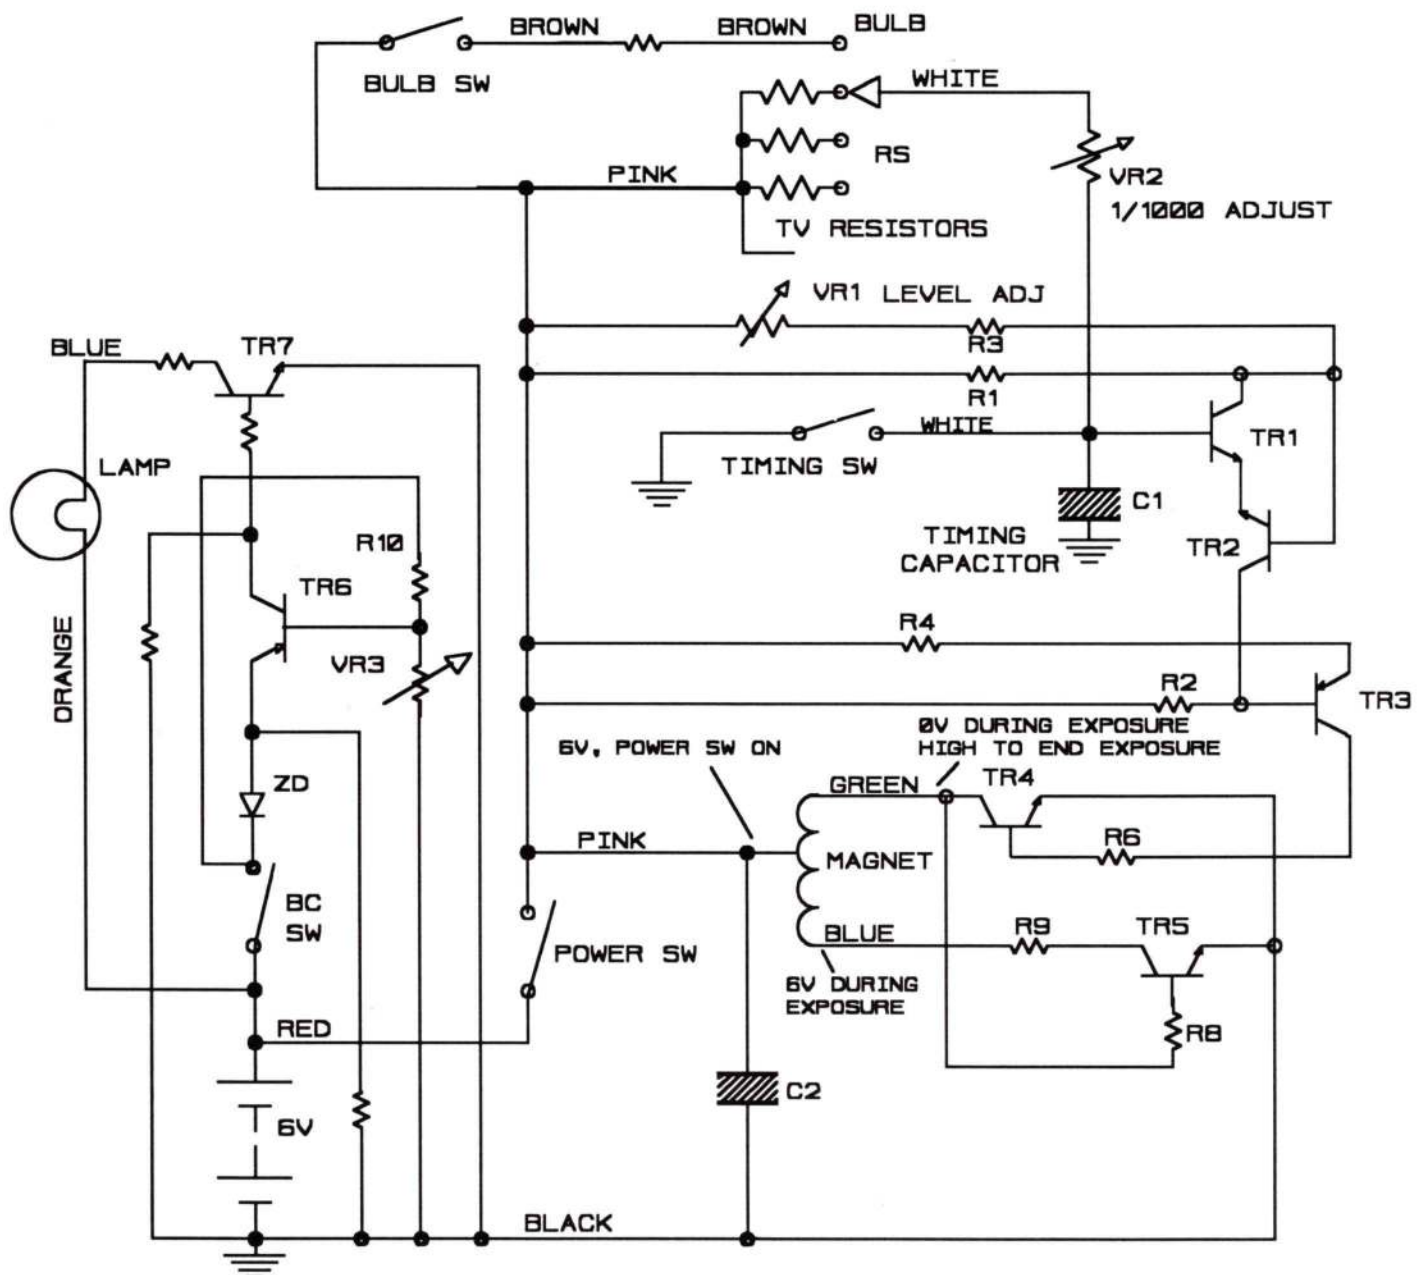

FIG. 31 SCHEMATIC
The new-style circuit board uses surface-mount transistors and resistors. The wiring is the same. But in the old-style board, the wires pass through holes in the underside of the board. In the new-style board, the wires connect to solder lands at the top of the board. The difference in the circuit is the connection of C2, Fig. 31—in the new-style board, C2 connects to the TR1 emitter.
**Note:** Most of the repairs in the 6x7 are mechanical—circuit repairs are normally limited to the switches. The circuit, Fig. 31, is a basic analog timing circuit. When the timing switch opens, the timing capacitor C1 charges through the TV (RS) resistance selected by the speed knob. The circuit then shuts off the current through the magnet. The magnet releases its armature to disengage the 2nd curtain.